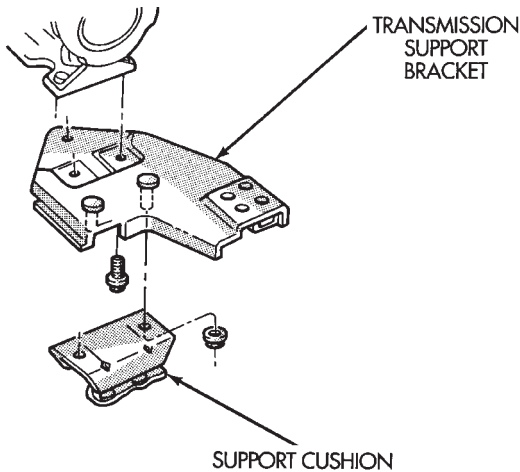
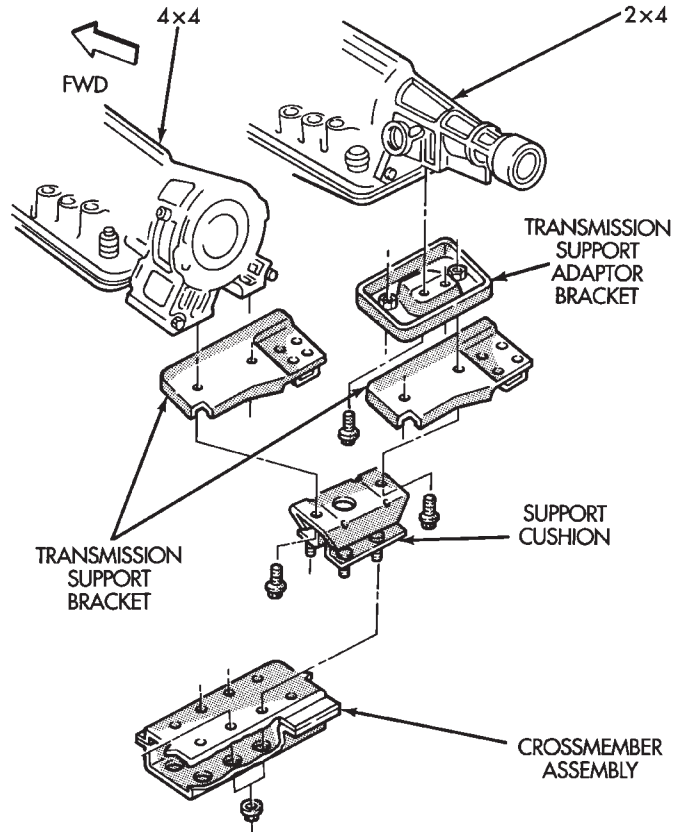

Fig. 25 Rear Mount (Manual Transmission)
Fig. 26 Rear Mount (Automatic Transmission)
- (1) Disconnect negative cable from battery.
- (2) Raise the vehicle and support the transmission.
- (3) Remove the nuts holding the support cushion to the crossmember (Fig. 25) (Fig. 26). Remove the crossmember.
- b. If necessary, remove the bolts holding the transmission support bracket to the transmission (Fig. 25). Remove the bracket.
- b. If necessary on 2WD vehicles, remove the bolts holding the transmission support adaptor bracket to the transmission (Fig. 26). Remove the adaptor bracket.